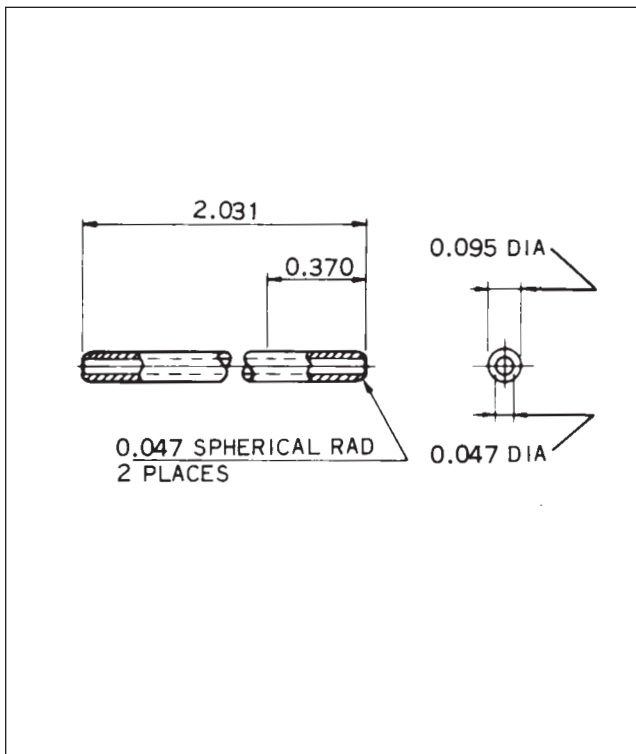
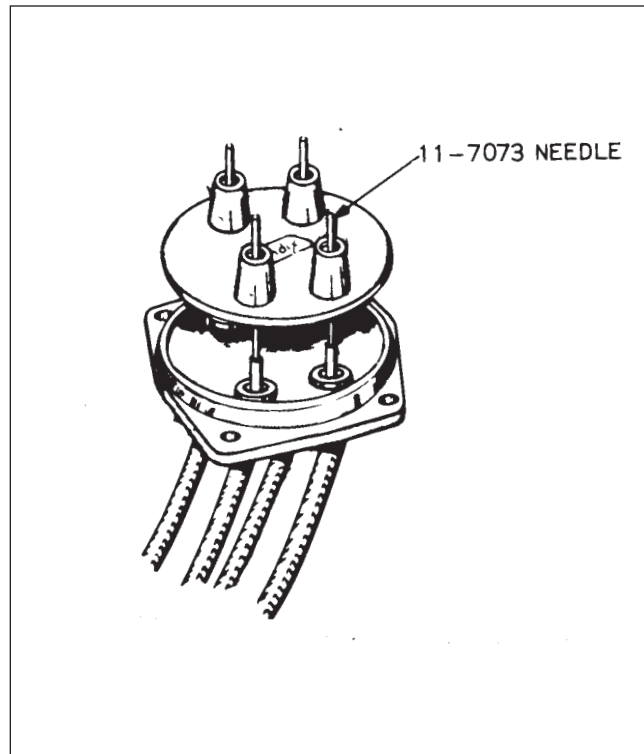

Figure 74-17. Needle
Figure 74-18. Installing Grommet Over Lead Assemblies
- N. Insert Bendix 11-7073 Needle (Figure 74-17) through the small hole of the grommet and over the stripped end of the wire. (Refer to Figure 74-18.) Slide grommet down needle until it seats tightly against the tapered ferrule.